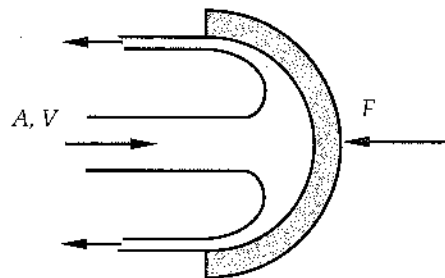

FIGURE P2.35.
35. A two-dimensional, liquid jet strikes a concave semicircular object, as shown in Figure P2.35. Calculate the restraining force F .